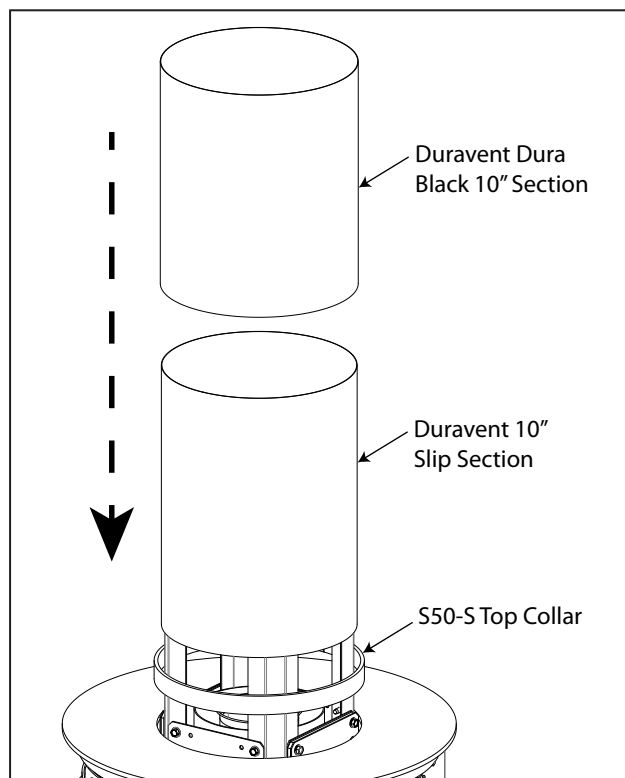

Figure 11: S50 Outer Components
2. Each suspension structure piece includes a DuraVent Dura Black 10" section. Retrieve the section for the suspension structure attached to the unit and slide it onto the unit. The slip section from the previous step should slide inside this component. Refer to Figure 11.